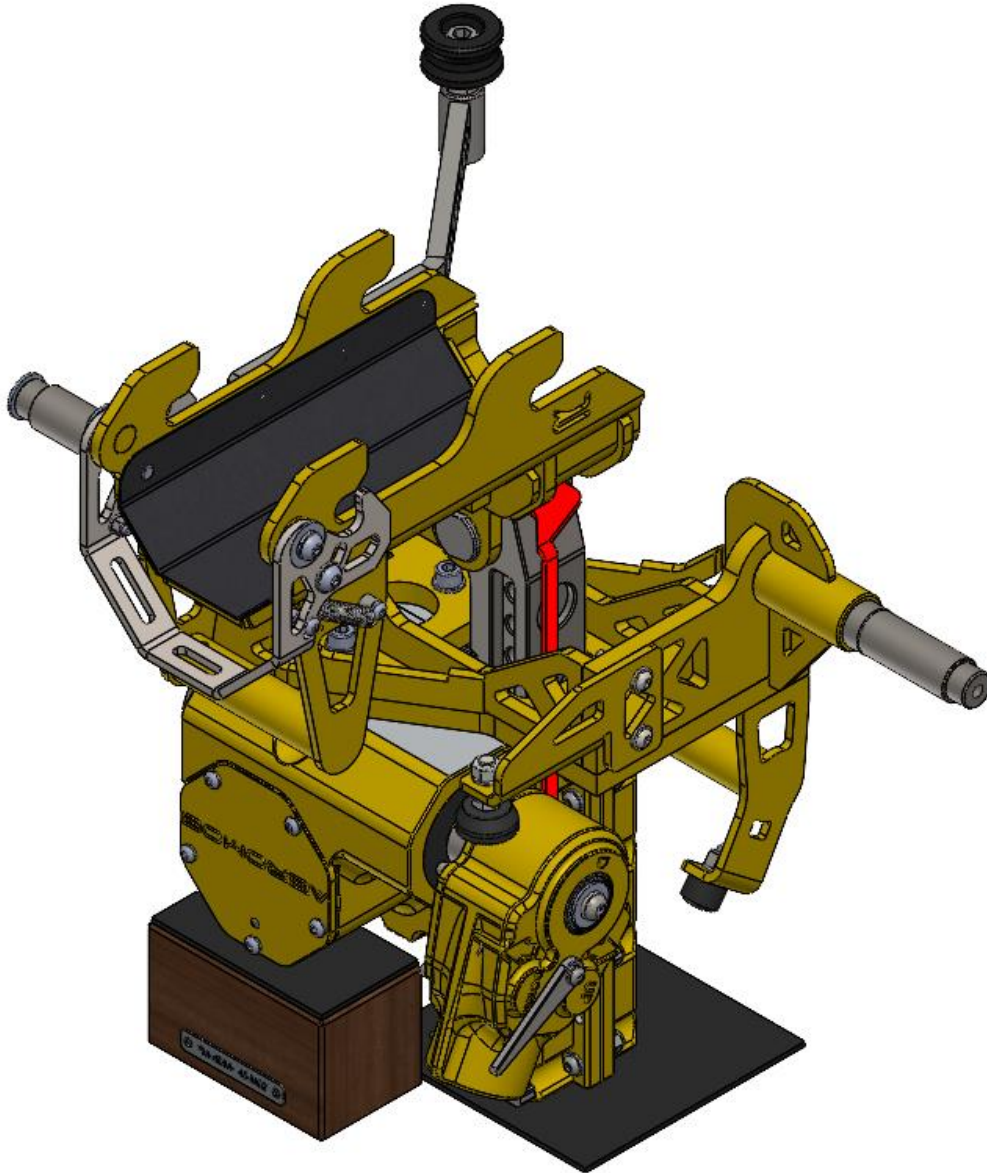

Figure 17
- jj. With the block upside down and the gear rack all the way out, install the grab assembled according to MM AM-HDM-145-K01/2-6, see Figure 17.